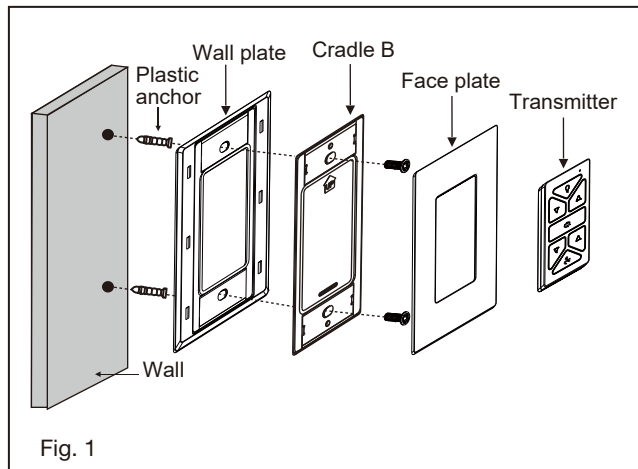

Fig. 1
- 1 Remove one of the three screws on the mounting hub located on the fan motor. (Fig. 1)
- 2 While holding the LED assembly under your fan, make the polarized plug connections: (Fig. 1)
- 3 Tuck connections neatly into LED assembly, place the LED assembly to the mounting hub with 3 screws provided. (Fig. 1)
- 4 Raise the light kit cover against the LED assembly and turn clockwise until snug, DO NOT OVERTIGHTEN. (Fig. 1)
- 1 Select a desired location. Use the wall plate to mark the location of the mounting holes. Plastic wall anchors or mounting screws are needed for this application. (Fig. 1)